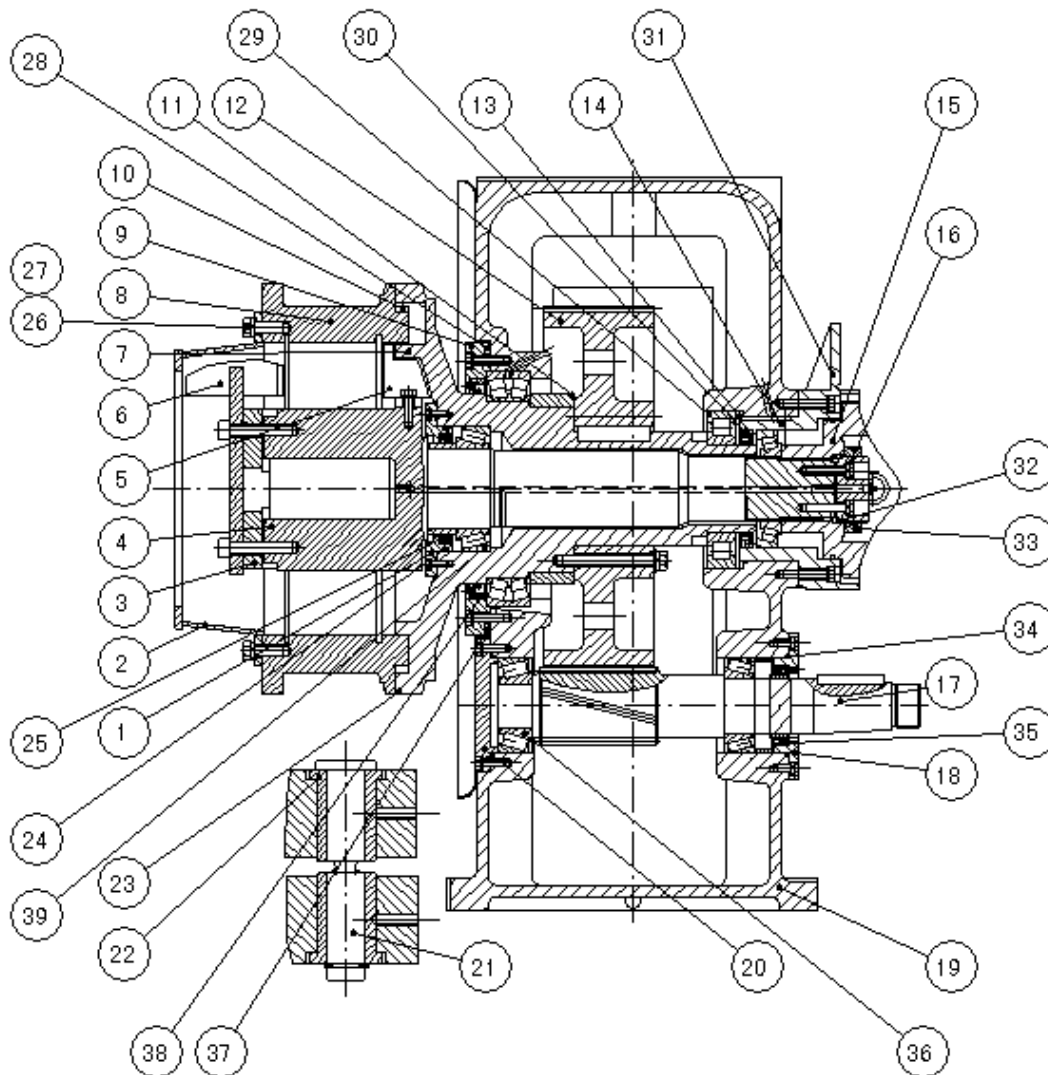

Figure 7 MAIN GEARBOX STRUCTURE
See Figure 7 for the structure of gearbox which consists of pinion shaft (17), main gear (12), main shaft (4), quill shaft (7), gearbox body (19), bearing etc. A motor drives pinion shaft to rotate through flexible coupling and meshes with driven gear so that the quill shaft (7) is driven to rotate. The quill shaft is fixed with die by clamp (23) and driving key (10), thus the die (8) is driven to rotate.